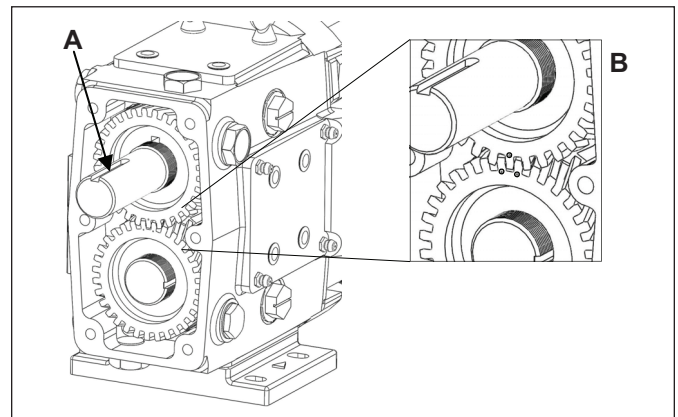

Figure 57. Installing Gears with Correct Timing
8. Once the gear keys are installed, orientate the shafts so that the keyways on the drive shaft are pointing in the 12 o'clock direction (Figure 57, A). Slide the right-handed gear with the single punch mark onto the drive shaft. Slide the second gear with two punch marks on the short shaft. To time the gears, align so that the single punch mark falls between the two punch marks on the opposite gear (Figure 57).